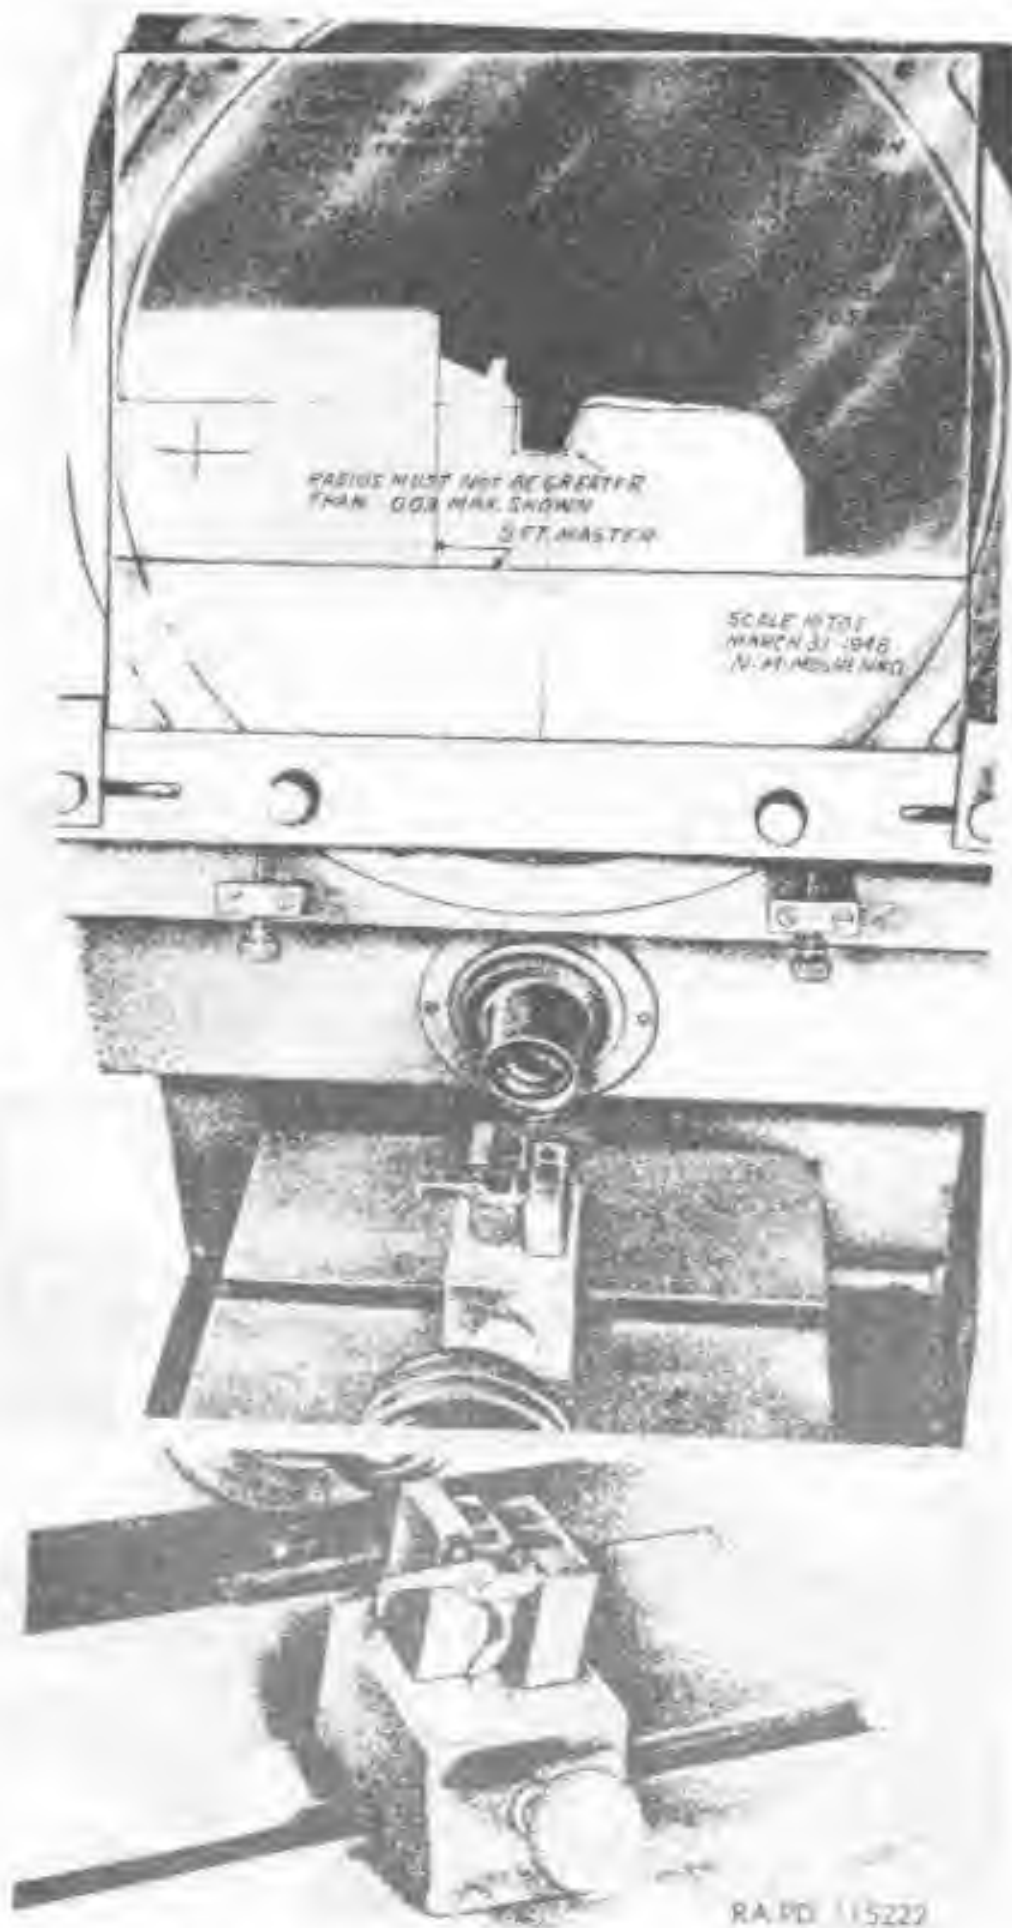

Figure 121. Given and Master with trigger in position.
- (2) On a satisfactory trigger the shadow of the contour being inspected, which is highlighted in figure 121, will fall within the limiting lines and conform to the other tolerances specified on the chart.